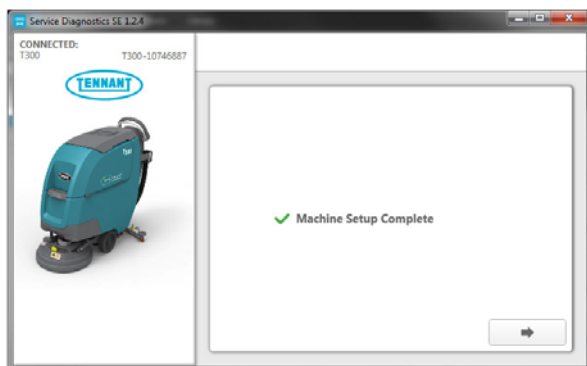

Fig. 10
- The following screen will appear when the process has completed (Figure 10). Press the arrow button to return to the Home Screen. Disconnect the USB cable from the machine and turn key off. The machine is now ready for operation.